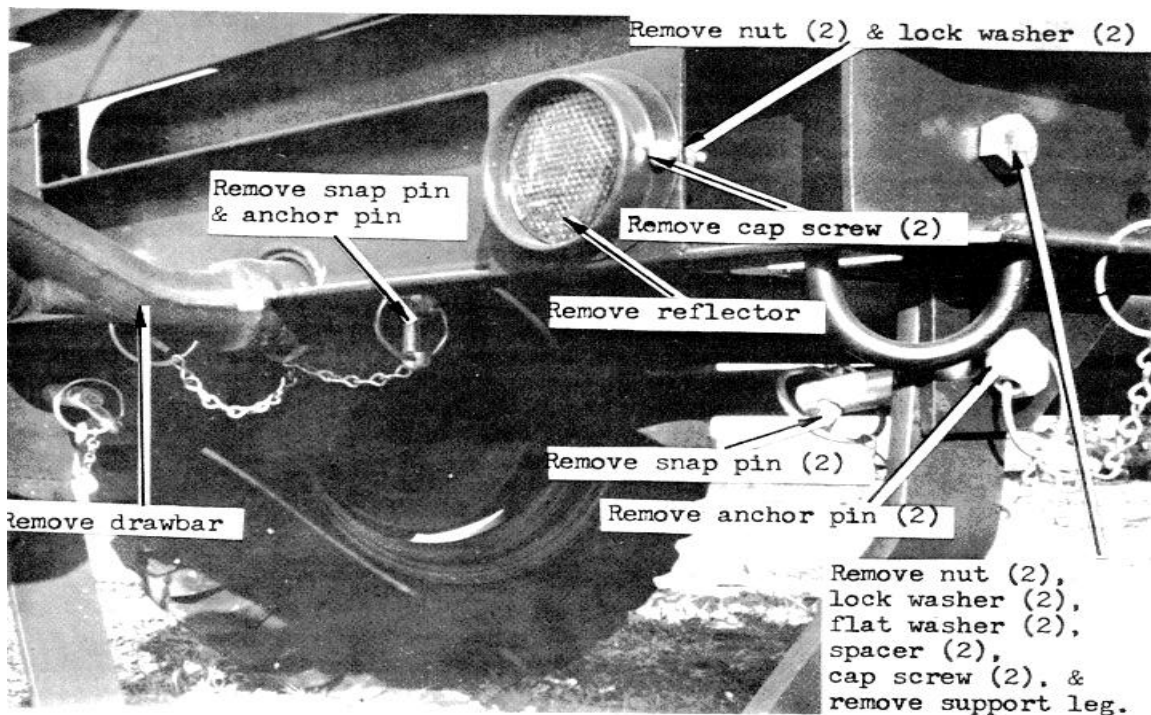

FIGURE 3-11. SUPPORT LEG, DRAWBAR, AND REFLECTORS
- a. Removal - Refer to Fig. 3-11 and remove the support leg, drawbar, and the four reflectors.
- c. Installation - Refer to Fig. 3-11 and reinstall the support leg, drawbar, and the four reflectors.